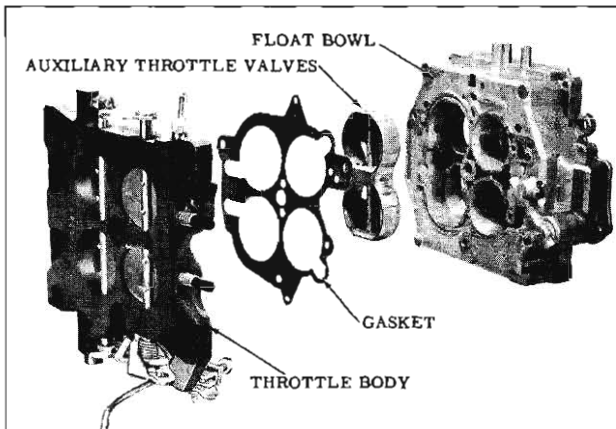

Fig. 4-159 Auxiliary Throttle Valve
16. Invert the carburetor body and remove the four throttle body attaching screws. Remove the throttle body and gasket. (Fig. 4-159)
1. With the carburetor body in the inverted position, install the auxiliary throttle valve assembly so that the calibrated spring operating pin is down. (Fig. 4-159)